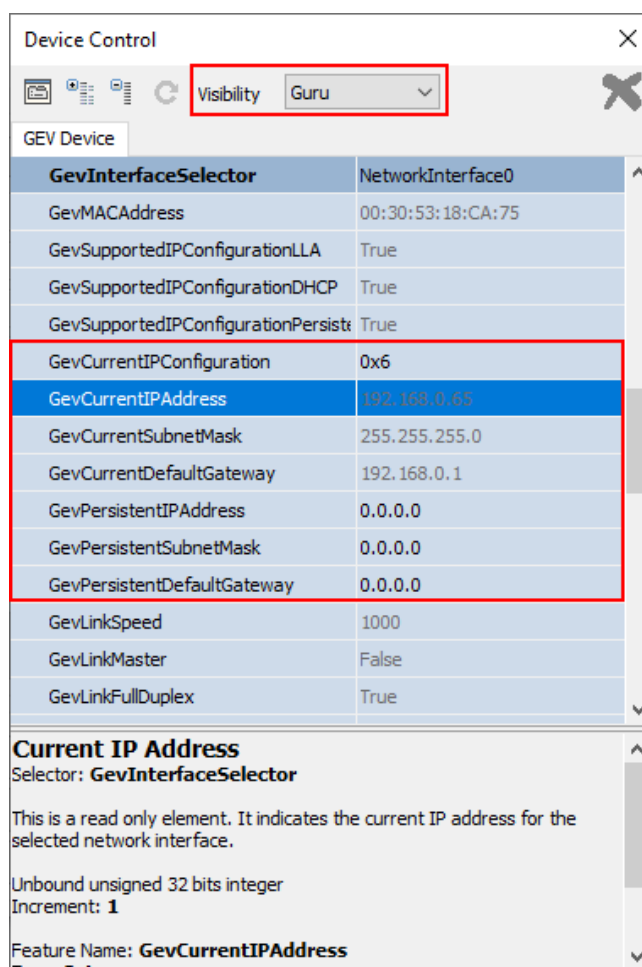

Figure 121: Device Control Window
4. Scroll down to locate **GevCurrentIPConfiguration** property (Figure 121). This is the first of the IP configuration properties that will be used.